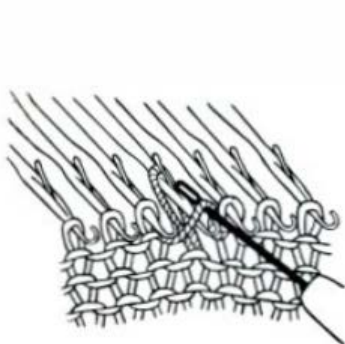

Fig. 34
- b. Push forward the empty needle until the stitch is behind the latch of the needle, catch the thread of the unknitted stitch into the hook of the needle. (See Fig. 34)